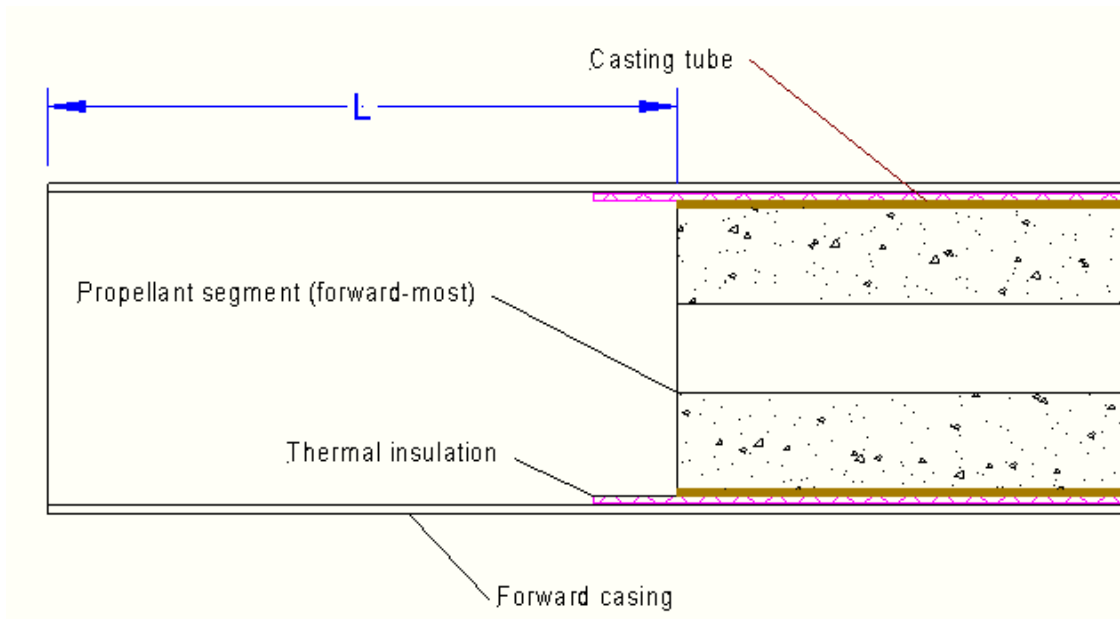

Figure 7 – Definition of dimension “L” needed to determine spacer sizing.
- 3. Measure distance from casting tube to forward lip of casing, L, as shown in Fig.7.
(L is the distance in inches from the casting tube to the front of the casing, as shown in Figure 7).